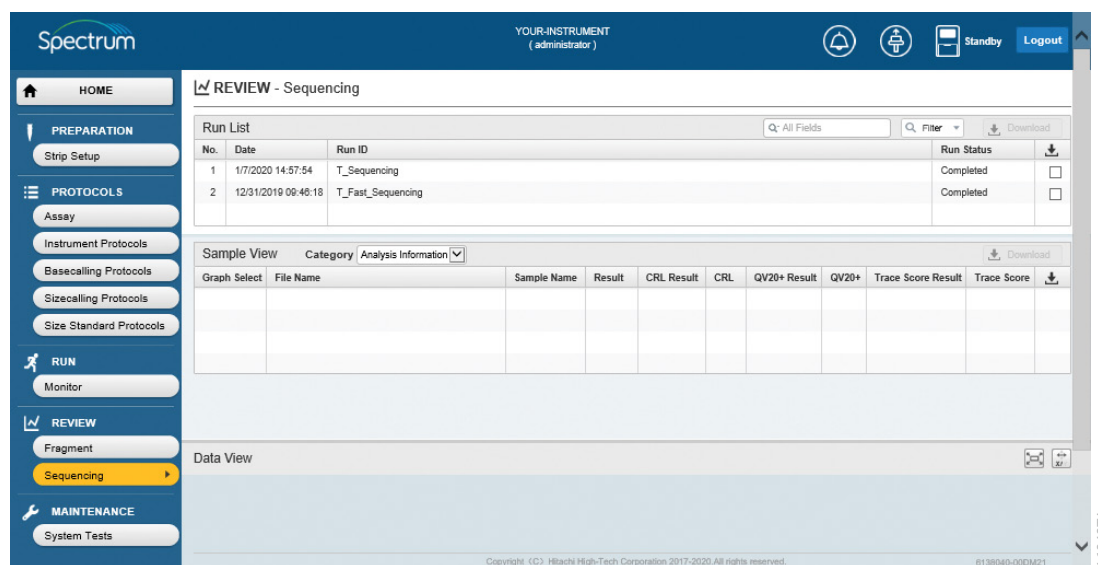

Figure 100. 'REVIEW-Sequencing' screen.
1. Select **Sequencing** under REVIEW from the Main Menu of the 'HOME' screen (Figure 12) to reveal the 'REVIEW-Sequencing' screen (Figure 100). The 'REVIEW-Sequencing' screen is split into three sections from top to bottom: